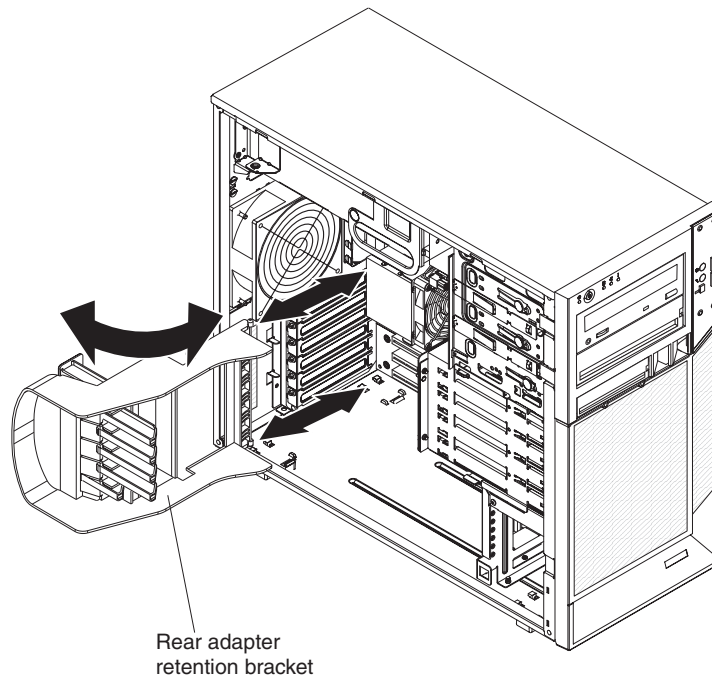

Figure 46. Installing the rear adapter-retention bracket
1. Engage the top and bottom release tabs of the rear adapter-retention bracket with the openings in the chassis, until the release tabs lock securely in place (see Figure 46).